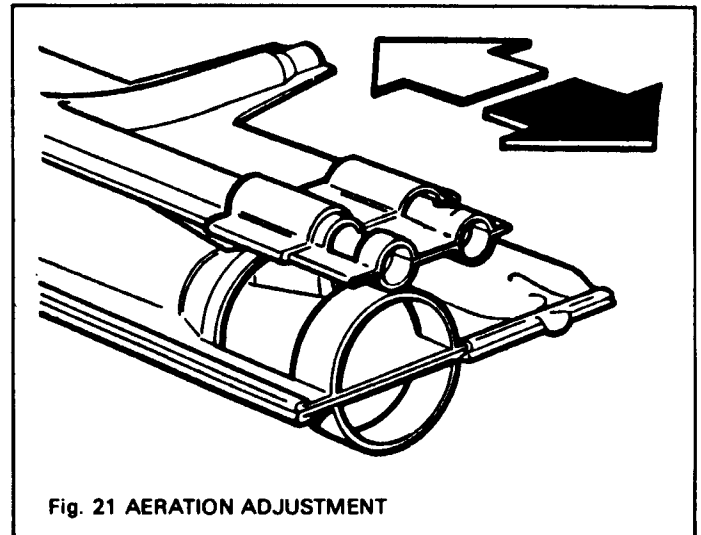

Fig. 21 AERATION ADJUSTMENT
- (c) Slide the aeration sleeve on the decorative flame burner either way to give the correct flame pattern. (see fig. 21). There should be no appreciable deposits of carbon on the logs.